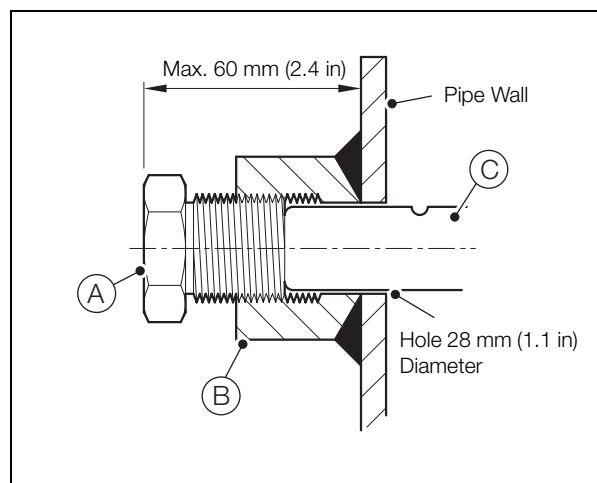

Fig. 2.9 Model 402 Support Plug
- c. Referring to Fig. 2.9, screw support plug (A) into threaded fitting (B) and tighten, ensuring that:
- support plug (A) contacts the TORBAR (C)
- the distance between the head of support plug (A) and the pipe wall does not exceed 60 mm (2.4 in).